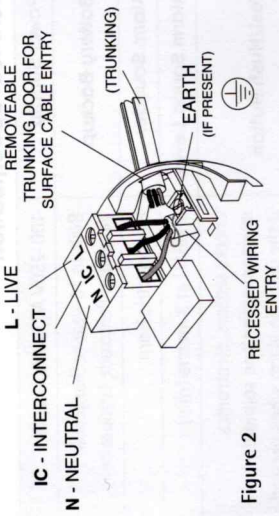

Figure 2
4. If the mains wires are recessed, bring the wires through the rear hole in the mounting plate as shown in Figure 2.
- position the mounting plate so the cable trunking is as shown in Figure 2.